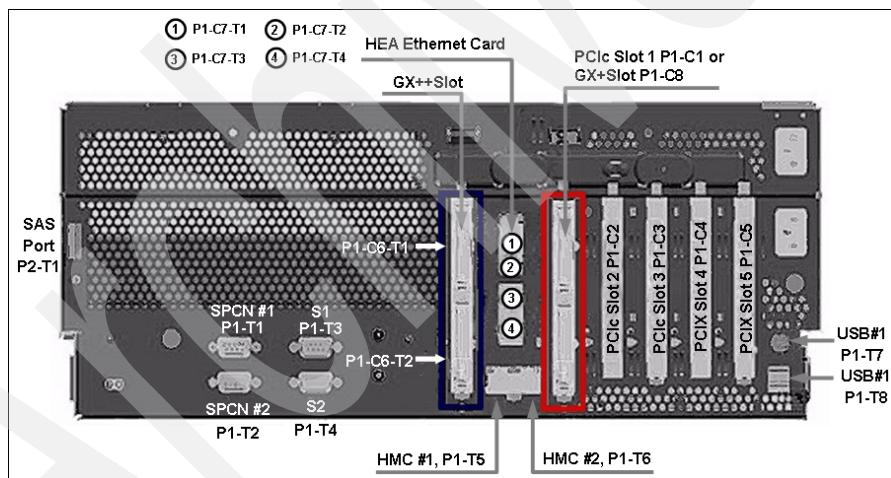

Figure 2-4 Power 520 GX+/GX++ slot locations for HCA
- ▶ You need at least a dual-core POWER6 processor configuration to activate the GX+ bus slot. In this case, the HCA feature code 5616 can be installed at location P1-C8 (same location as P1-C1 PCIe 8X slot) as marked with a red rectangle at physical location code P1-C8 in Figure 2-4.
- ▶ To activate the GX++ bus slot, you need four cores (full configuration). In this case, the HCA features 5608 or 5609 can be installed at location P1-C6, as marked with the blue rectangle in physical location code P1-C6 in Figure 2-4.